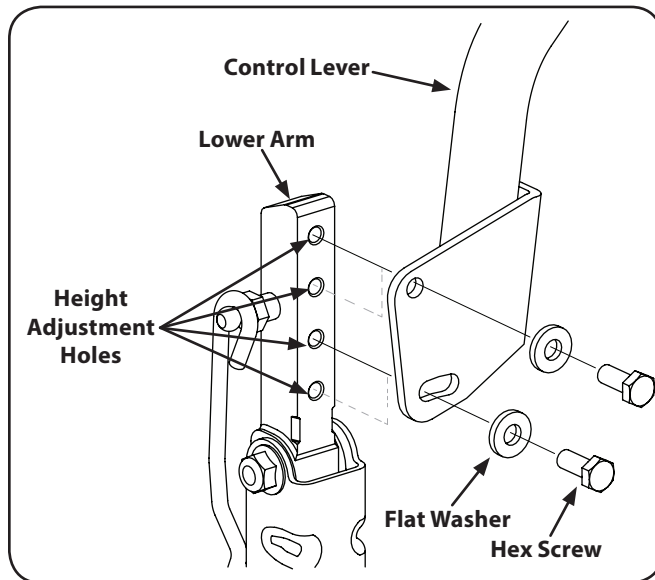

Figure 6-5
2. While supporting the control lever to keep it from falling, remove the hex screw and flat washer from the bottom of the control lever and lower arm. Refer to Figure 6-5.
1. If not already loose, loosen the hex screw and rotate the control lever either forward or rearward to the desired position. See Figure 6-5.